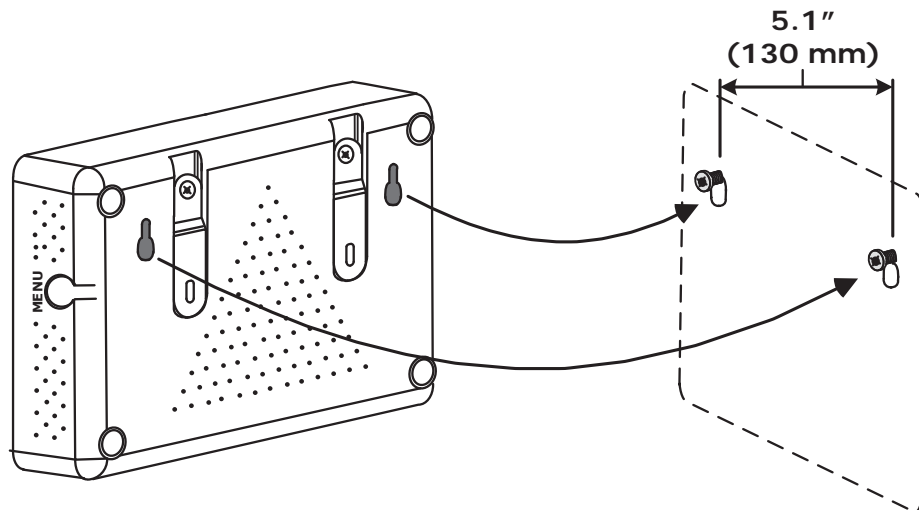

Figure 5, Wall Mounting the MagWeb GT
2. Align/slide the MagWeb GT onto mounting screws (Figure 5).